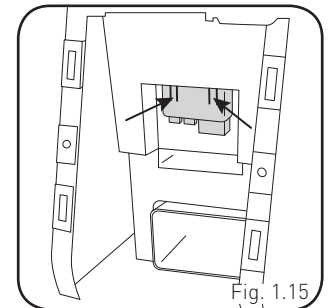

Fig. 1.15
- Disconnect the USB and wiring harness. Press the locking tabs (front and back) inward and push up to remove the USB hub. (Fig. 1.15)